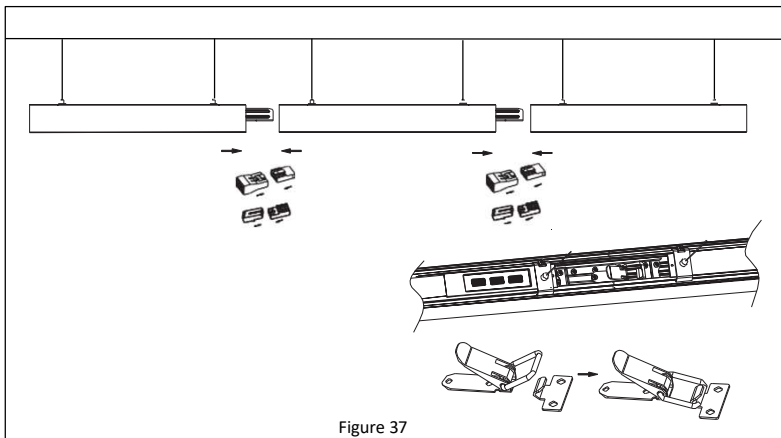

Figure 37
9. Make electrical connection between fixtures with male-female connectors. **See Figure 37.**